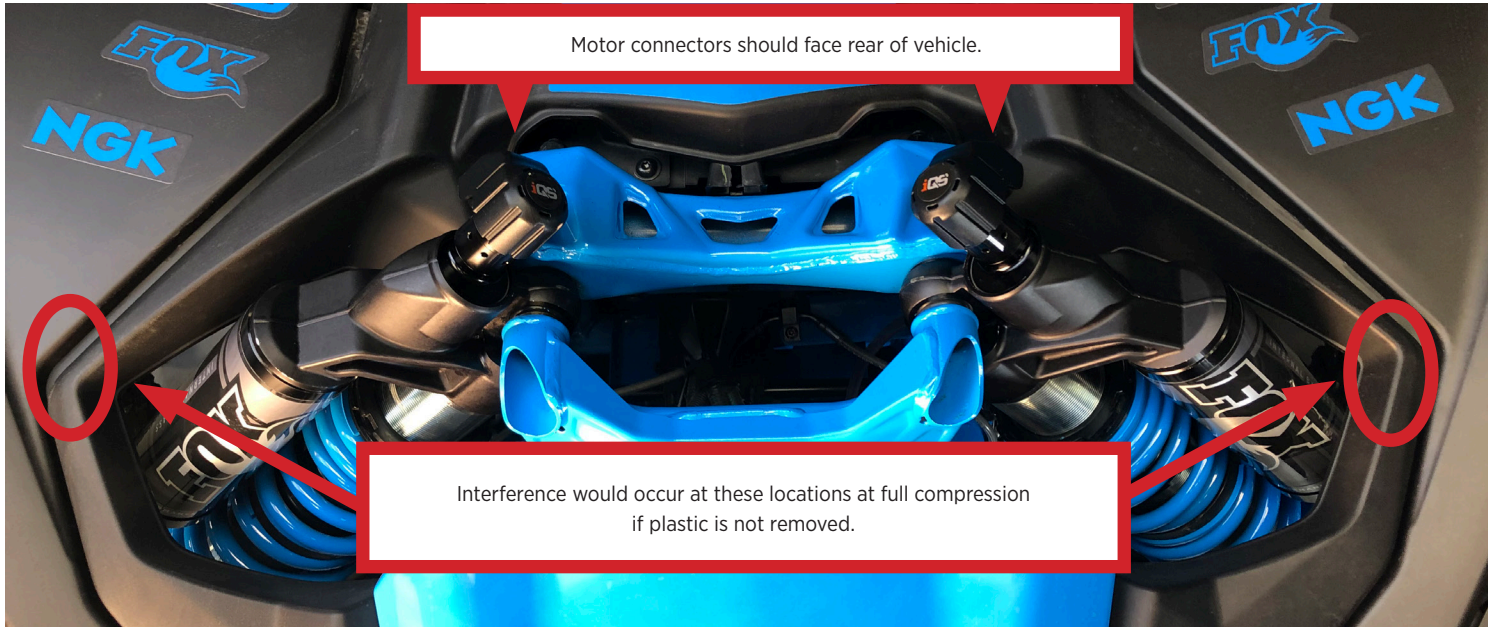

Figure 1b: Shows proper front shock orientation with reservoir facing outward. Plastic not cut in this image.
3. Using an 18mm socket wrench and 18mm combination wrench, install the iQS front shocks in the OPPOSITE orientation and side from the original OEM mounting, as shown in Figure 1b.